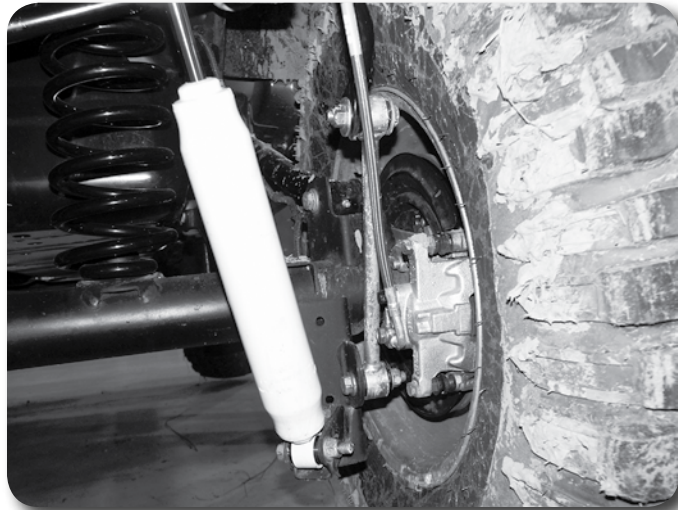

Figure 24
36. Attach the new sway bar links to the out surface of the original axle mount and sway bar. Attach the links to the axle with the original hardware and to the sway bar with the provided 12mm x 60mm bolts, nut and washers. Run the bolts from outside in. Torque bolts to 60 ft-lbs. **Figure 24**